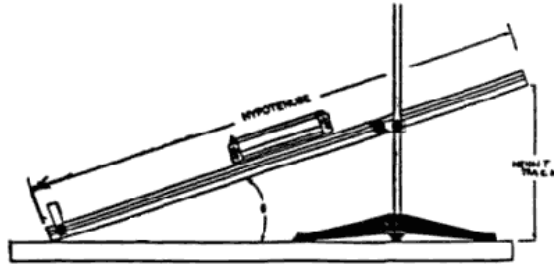

Figure 2: Setup
1. Set up the track as shown in Figure 2, raising the end of the track to about  $H = 10\text{cm}$ . Place a catch-box at the lower end of the track to prevent damage to the cart as it moves from the incline onto the table. When you measure the height, make sure you measure from the table to the *bottom* of the track.